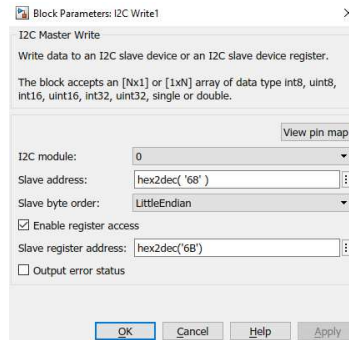

Figure 4: I2C Block Configuration
- Implement the initialization sequence as shown below. An example of how to configure the I2C block is shown in Figure 4. The corresponding slave device address is 0x68